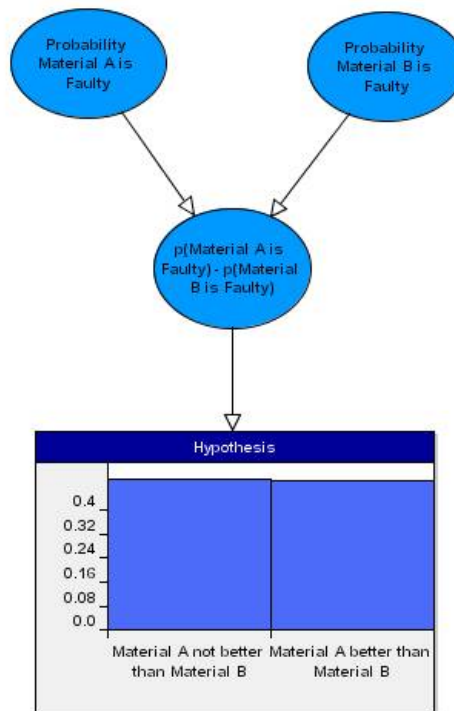

Figure 8 Probabilities of *Hypothesis* node with no observations
35. Run the model, display the risk graph for the *Hypothesis* node and verify that, in the absence of any information, the probability of material A being better than material B is slightly below **0.5**. Your model should now look similar to the one in Figure 8 below.